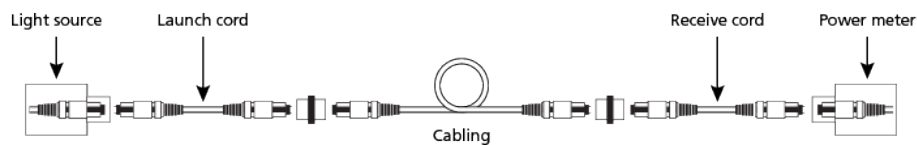

Figure 8. Measure attenuation of cabling
2. Attach the launch cord and receive cord to the cabling under test (see Figure 8).